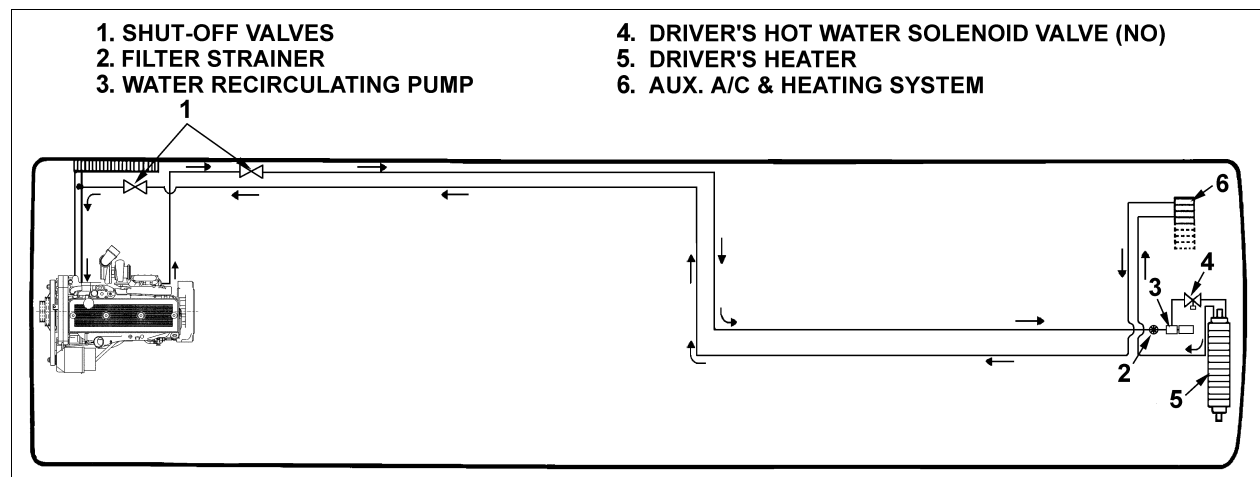

FIGURE 5
1. Close both heater line shut-off valves (item 1, figure 5).